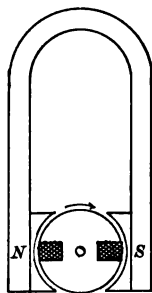

FIG. 286. — Magneto has permanent steel magnets.
**324. Excitation of the field of generators.** In the magneto (Fig. 286) the magnetic field is supplied by permanent steel magnets. In most other generators, the magnetic field is furnished by powerful electromagnets. Sometimes the current needed to excite these magnets is supplied by some outside source, such as a storage battery, but generally the machine itself furnishes the exciting current. There are three types of generators differing in the method of exciting the field coils; (1) *series-wound*, in which the whole current generated passes through the field coils on its way to